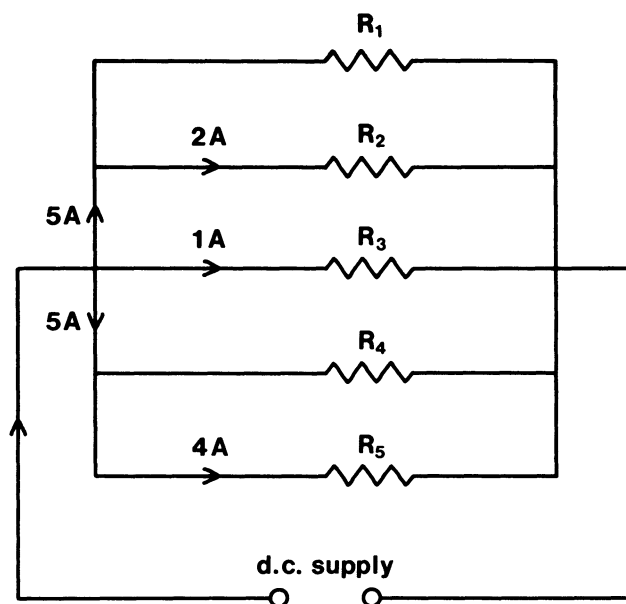

FIG. 3.10
6. Fig. 3.10 shows the current in a network of resistors connected to a d.c. supply. Which resistor has the smallest resistance?